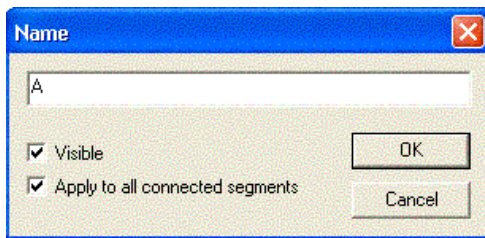

Fig. 8
- Type the name of the wire in the text box. Be sure to check Visible as in Fig. 8.